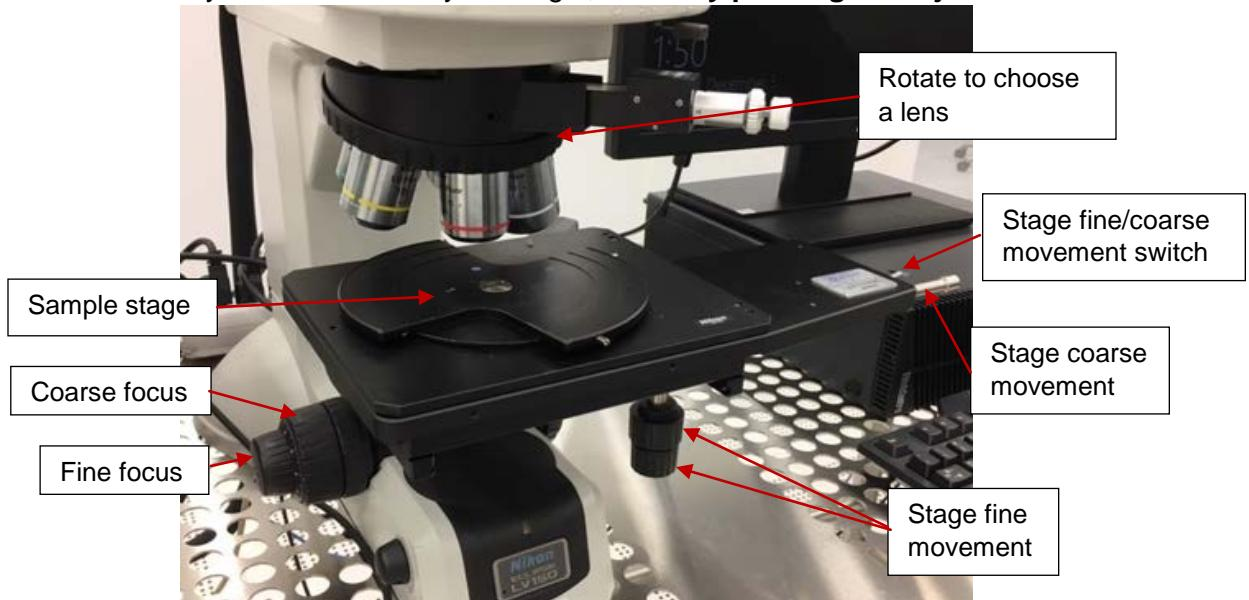

Figure 6. Focus on samples.
- 4) Load your sample after moving the stage out with the course lever on the right (Figure 6). Choose 5X objective. Make sure there is enough clearance between the sample and the objective before moving the stage in. Move sample under the objective lens using fine stage movement (Figure 6). Select brightfield mode '1'. While looking from the front, raise the stage (using focus knob on the left bottom, Figure 6) to bring sample within about 1 cm of the objective (beyond focus point). **Do not crash into the objective.** Now focus by looking in to eye-piece and lowering the stage slowly. Adjust light and filters as
needed (Figure 6 and 7). For higher magnifications, turn the turret one step at a time and fine focus. Always turn the turret by rotating it, **never by pushing on objectives**.